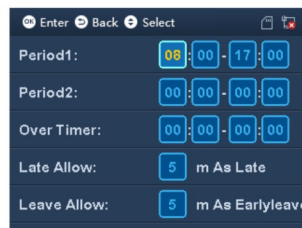

Figure 2-11
Select Fixed, click ③. See Figure 2-11.